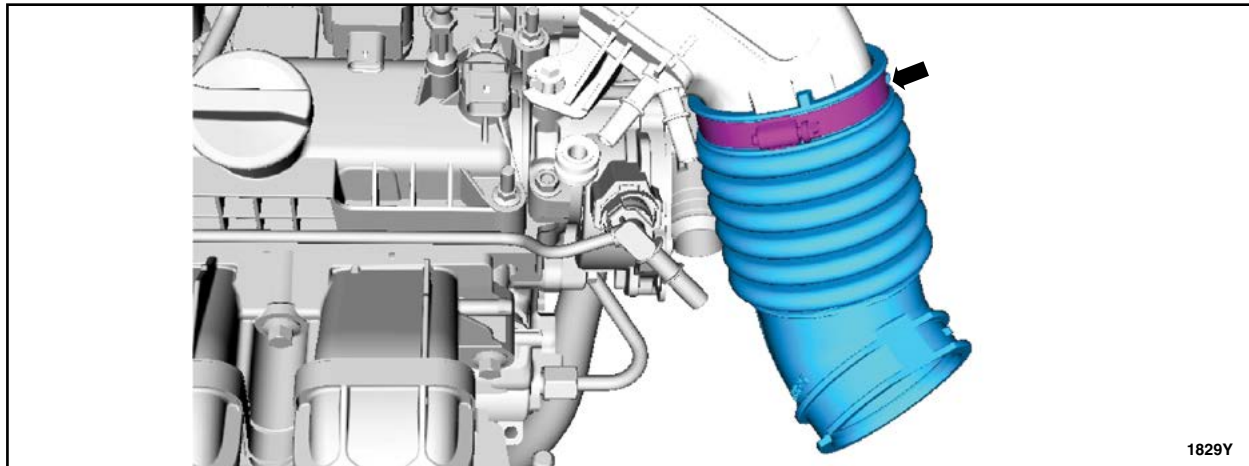

FIGURE 1
2. Position the gear shift lever in Drive (D).
4. For all Escape vehicles equipped with 1.6L and 2.0L engines, loosen the clamp and remove the air cleaner outlet pipe. See Figure 1.